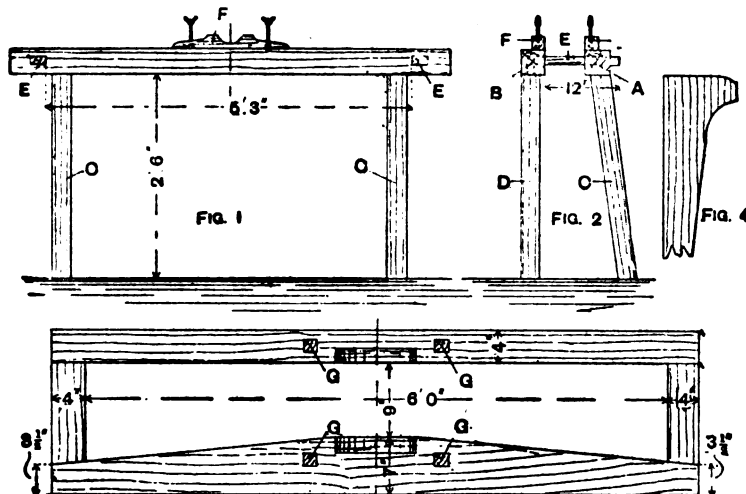

FIG. 3
**Wheelwright's Horse for Mortising Wheel Naves.**—The horse shown in Figs. 1 and 2 is to be preferred to the pit for light work. It stands close against a wall, preferably under a window; the larger parts can be made of deal. It is very light, and can easily be removed if desired. In Fig. 2, A shows the front of top of wheel horse and B the back, each being 4 in. square; C D are the legs, 3 in. square; E F are two pieces connecting front and back of horse together, 2½ in. wide by 1½ in. thick. These are driven tightly into a mortise about halfway through B and pegged or screwed; the other ends fit fairly tight in a mortise going right through A, so that the whole front of horse, with legs, can be knocked backwards and forwards to accommodate hubs of different lengths. Two pieces F F, 2 in. square and 19 in. long with 1 in. bolts, are nailed or screwed on top of wheel horse and hollowed out on top for nave to rest in. To strike a curve on front piece, open the compasses 2½ in., and for back piece 3 in. The nave is fixed with pieces of iron about 1 in. wide and ½ in. thick, dropping loosely over the bolts and spanning the nave at front and back, which they are bent to fit. A frame for a pit for making very heavy wheels would have to be a fixture; the front might be 7 in. wide in the centre, and taper on the inside to 3½ in. at ends, thus forming a bow piece to allow for the dish of the wheel. The timber for making the pit frame shown in plan, Fig. 3, should be 3 in. or 4 in. thick, the pit being 2 ft. 6 in. deep.
**Mitring a Cornice Moulding.**—The method of mitring the cornice moulding shown by Fig. 1, when the cornice is built up as shown by the section (Fig. 2), should present little difficulty in respect of the members A and B. To keep the moulding in position whilst cutting the mitre of C, place a strip of wood E in the mitre box (Fig. 3); the distance from the edge of this to the back of the box must be equal to D (Fig. 2). For ordinary